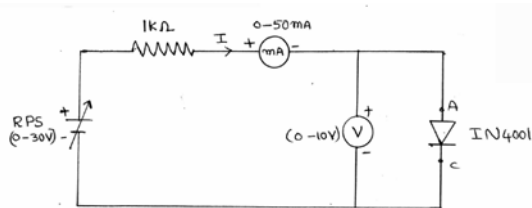

Fig.1 Diode connected in Forward Bias
1. The connections are made as per the circuit diagram (fig1)